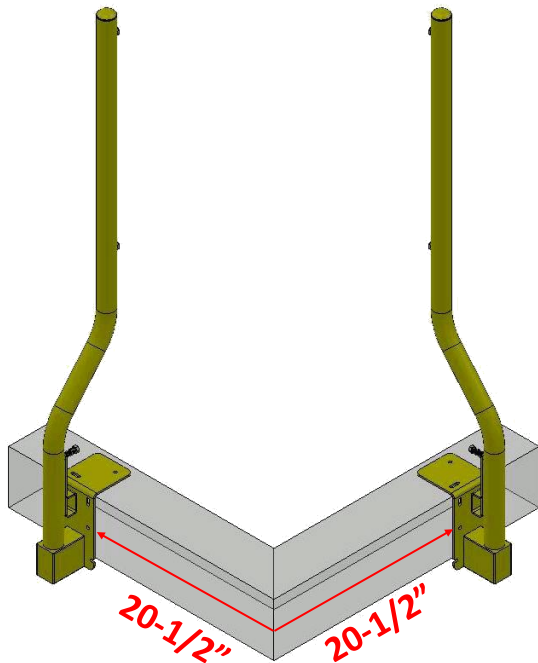
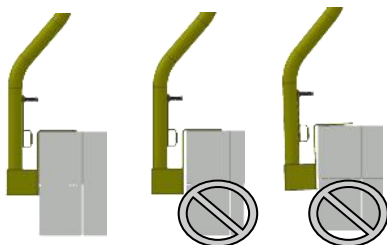
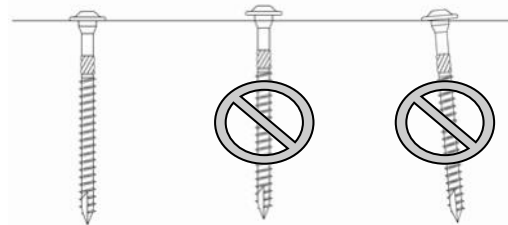
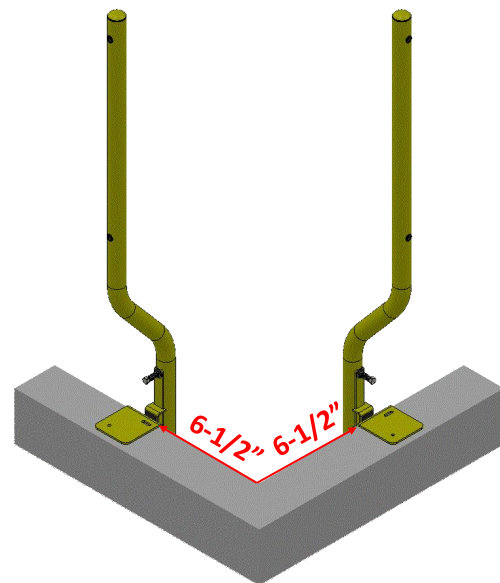

Figure 1.1
Figure 1.2
Figure 1.3
Figure 1.4
STEP 1—Determine the first corner from which work will begin. To ensure proper placement of the corner uprights, place each upright 20-1/2" from the outside corner of the structure (see Figure 1.1). Ensure uprights are plumb and the vertical face of the mounting bracket is flush with the substrate (Figure 1.2); attach to structure with appropriate fasteners (see Figure 1.3). Inside corner placement, see Figure 1.4.